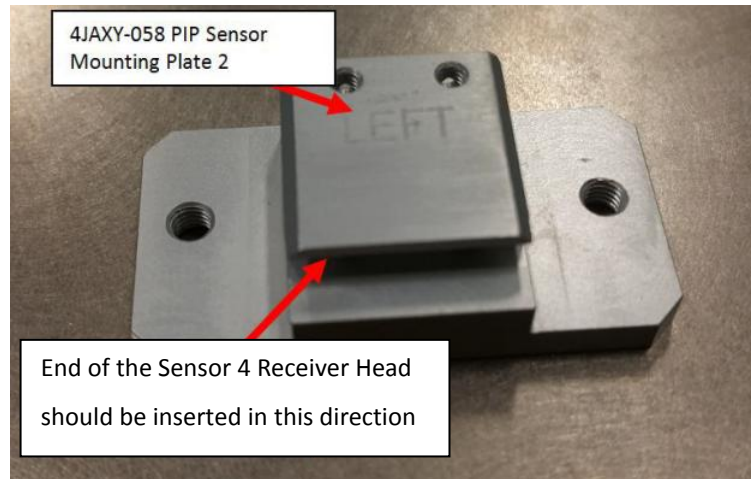

Figure 36 Sensor 4 Receiver Head
1. For Sensor 4 Receiver, insert the tip of Sensor 4 Receiver into 4JAXY-034 PIP Sensor Mounting Plate as shown below in Figure 36